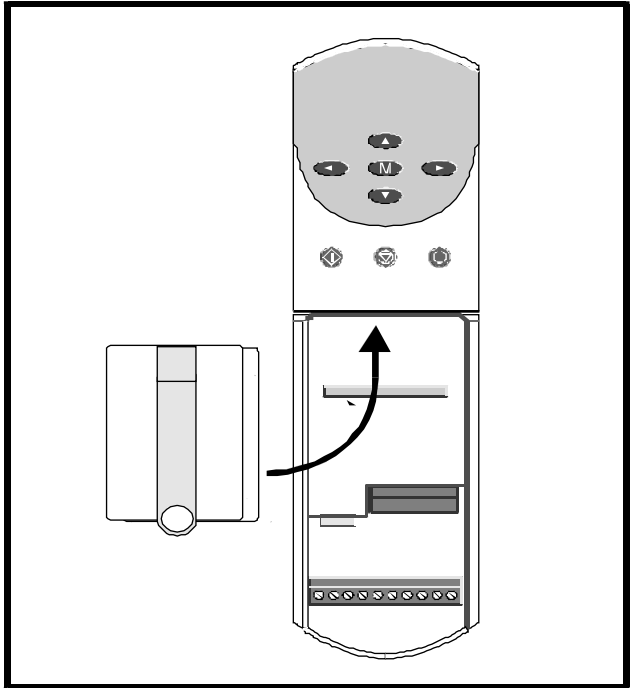

Figure 1. Installation of Module
2. Insert Large Option Module as shown in Fig 1. Ensure it is correctly connected.